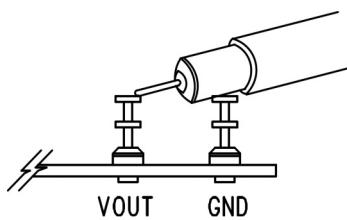

Figure 2. Measuring Output Ripple
**NOTE:** When measuring the input or output voltage ripple, care must be taken to avoid a long ground lead on the oscilloscope probe. Measure the input or output voltage ripple by touching the probe tip directly across the  $V_{IN}$  or  $V_{OUT}$  and GND terminals. See Figure 2 for proper scope probe technique.